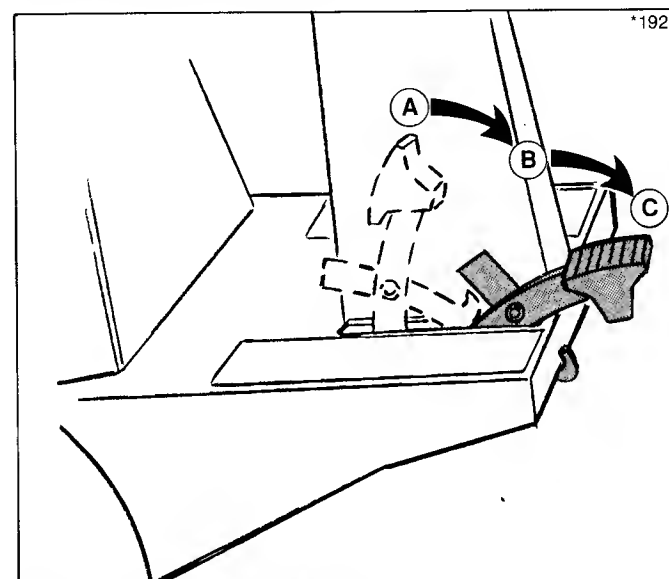

Figure 6. Clutch/Brake Pedal
12. **Before leaving operator's position**, set the parking brake and disengage the mower PTO. (The parking brake is shown set in figure 6.) Set the engine speed control to SLOW and allow the engine to idle for 20 seconds. Turn the key to OFF and remove it. Wait for moving parts to stop.
Refer to figure 6. Depressing pedal from position A to B disengages transmission drive. Depressing pedal further from position B to C will also apply tractor brake. Parking brake is applied at position C when pedal is latched over footrest as shown in figure 6.